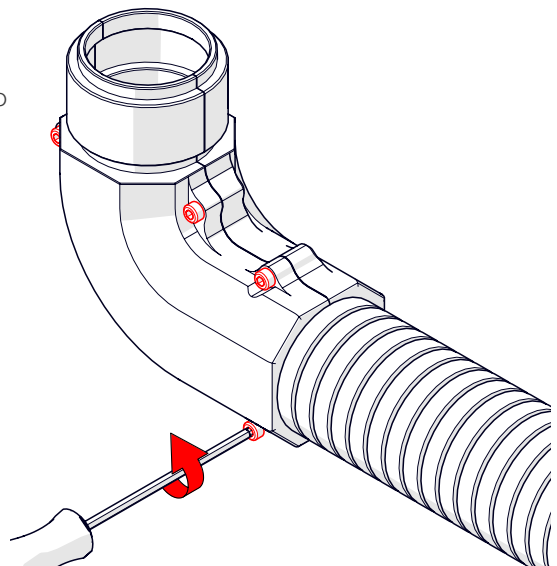

Fig. 82 - Unscrew to open cable management
1. Unscrew the four screws using the 2.5 mm hex driver to open the cable management (Fig. 82).